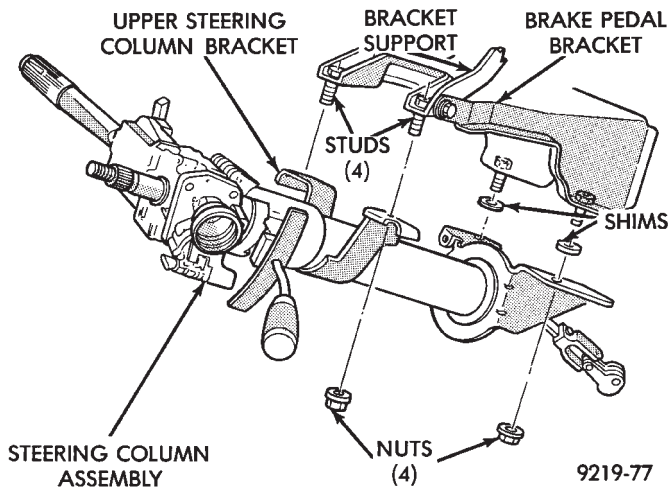

Fig. 13 Steering Column Mounting
(3) Position the steering column assembly in the vehicle. Align the steering column assembly mounting bracket slots on the brake pedal bracket attaching studs (Fig. 13). Install, but **loose assemble** the two upper column bracket, washers and nuts.
(4) Make sure the front wheels are in the straight-ahead position. Align and assemble the upper steering coupler to lower steering coupler. Install the upper to lower steering coupler retaining bolt and nut. Torque the retaining bolt nut to 28 N•m (250 in. lbs.).